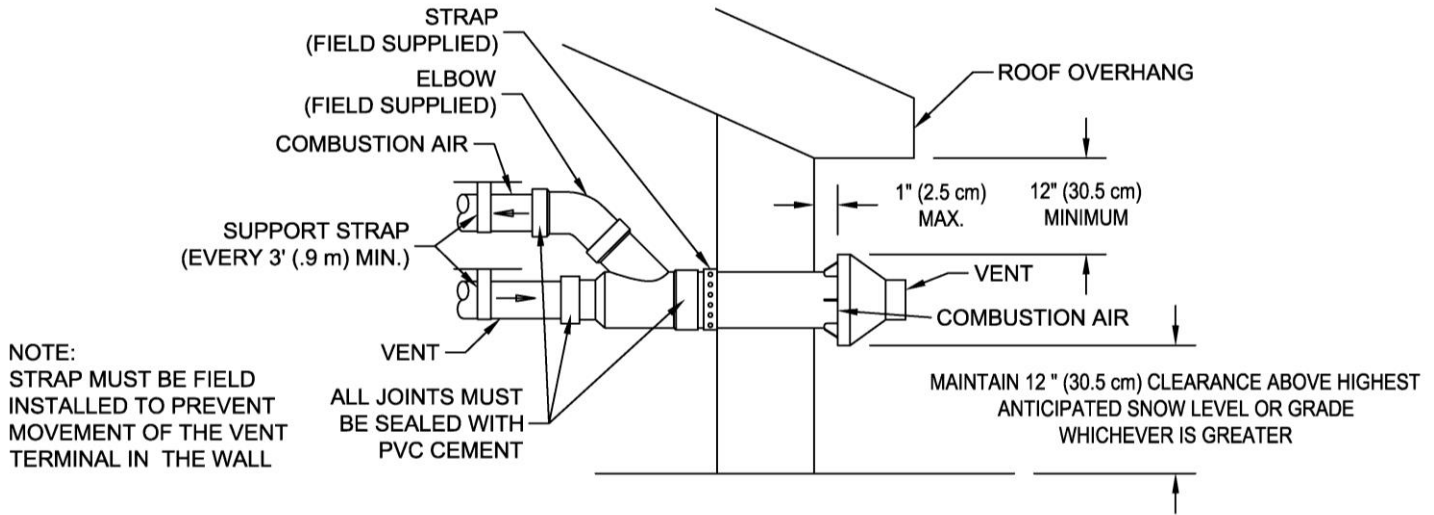

Figure 21. Concentric Vent Side Wall Attachment
1. Become familiar with coaxial vent kit part no. 239-44069-01. As shown in Figure 21.
7. Secure assembly to structure as shown in Figure 21. Ensure clearances as shown in Figure 21.